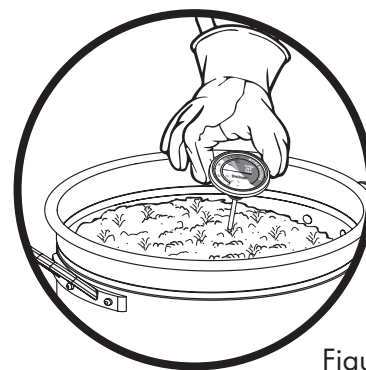

Figure 2
5. Test any thermometer (sold separately) before using it with this appliance. To test, wear a protective glove and hold the thermometer by the dial. Insert the stem into boiling water. The needle should quickly move around the dial and register approximately 212°F/100°C (plus or minus 5°F/2.78°C). This indicates whether or not the temperature reading is accurate. (Figure 2)